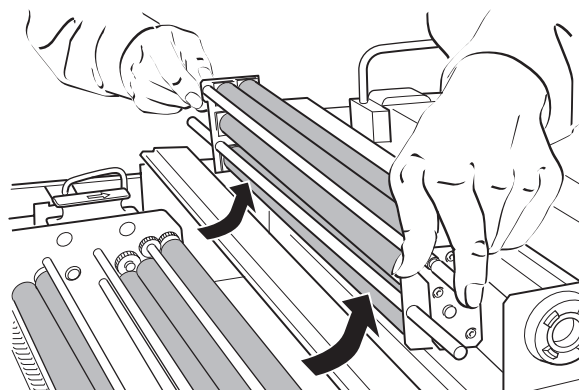

Fig. 19
- The distribution rollers (fig. 19) consist of one unit with three pairs of rollers that can be removed and cleaned together.
- Remove the distribution roller unit along the dryer compartment (fig. 19).